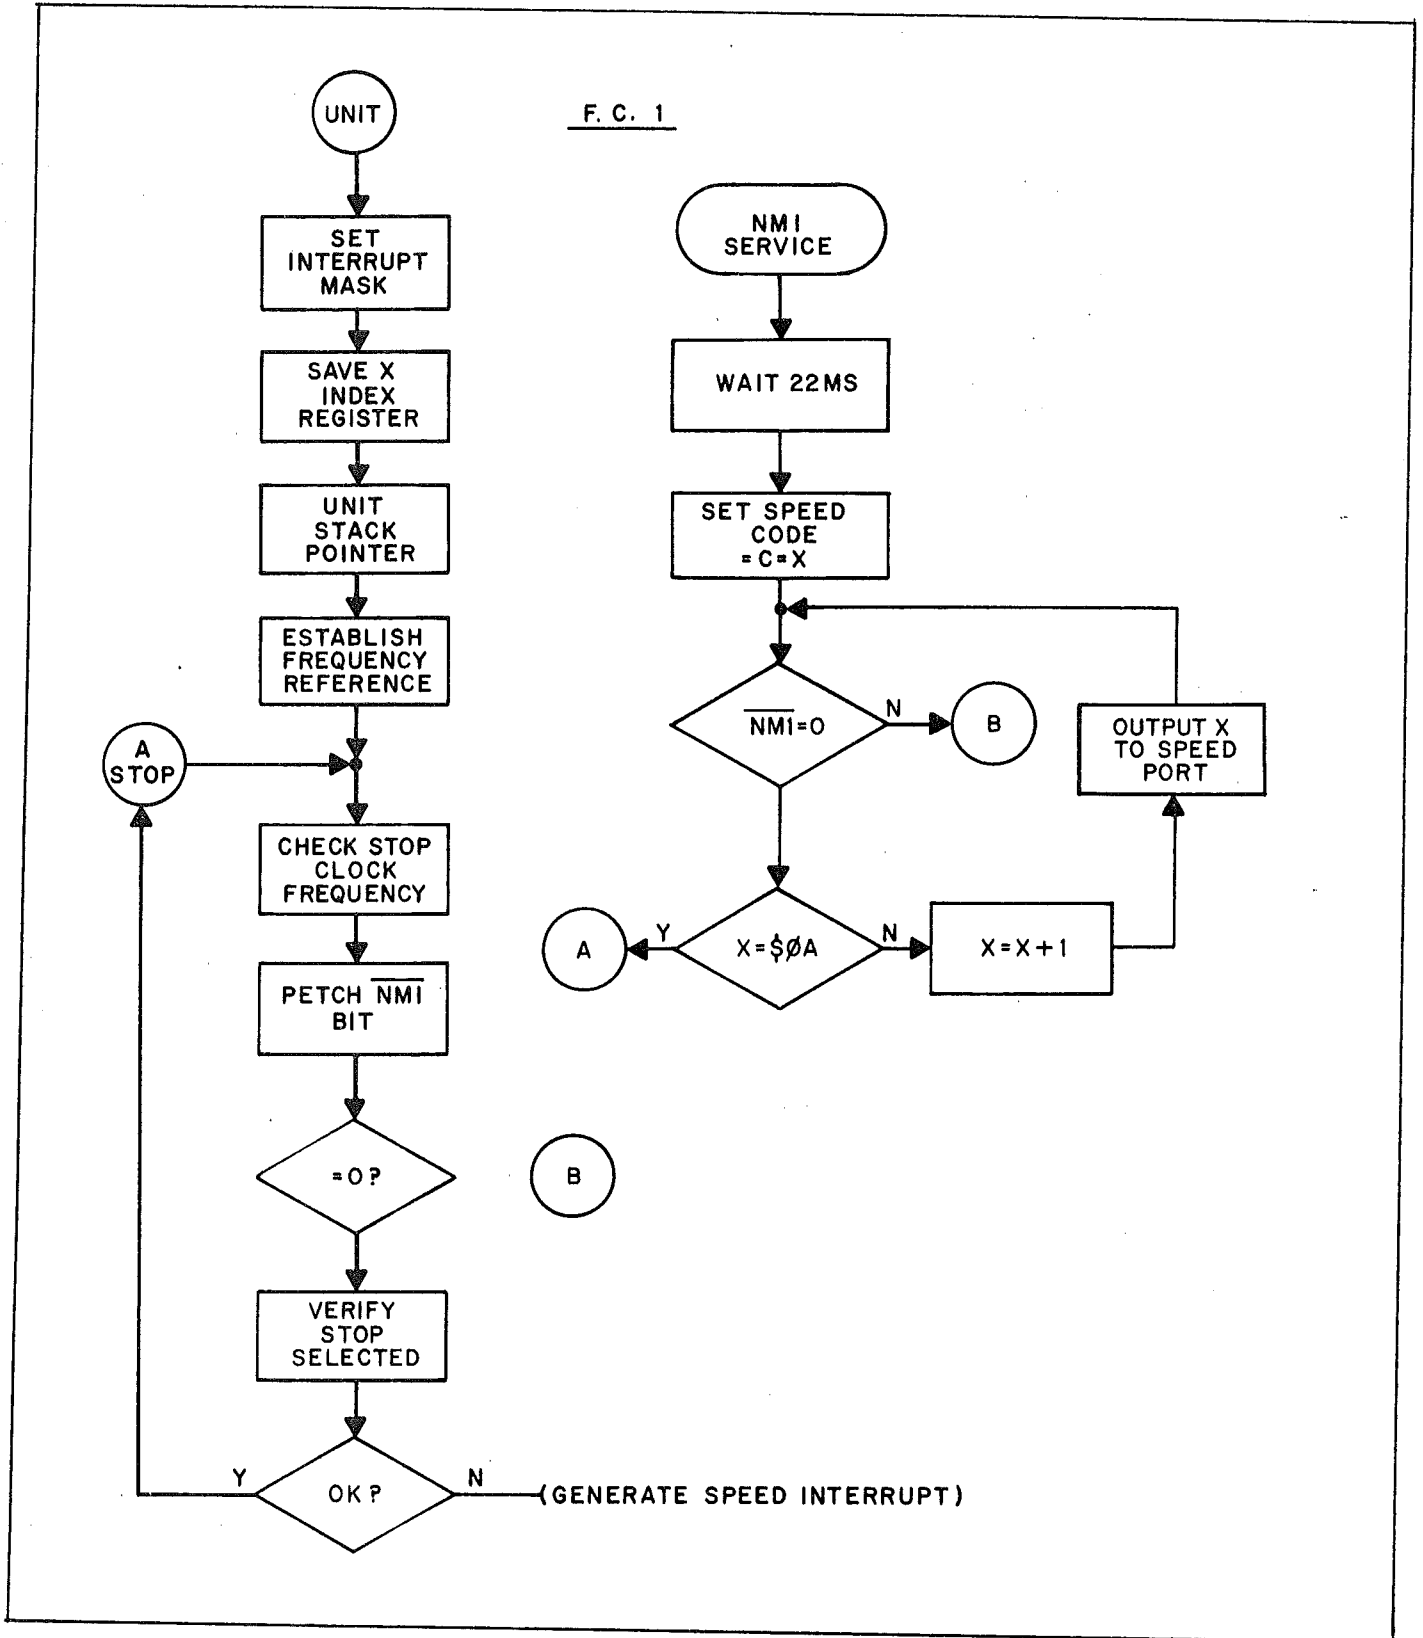
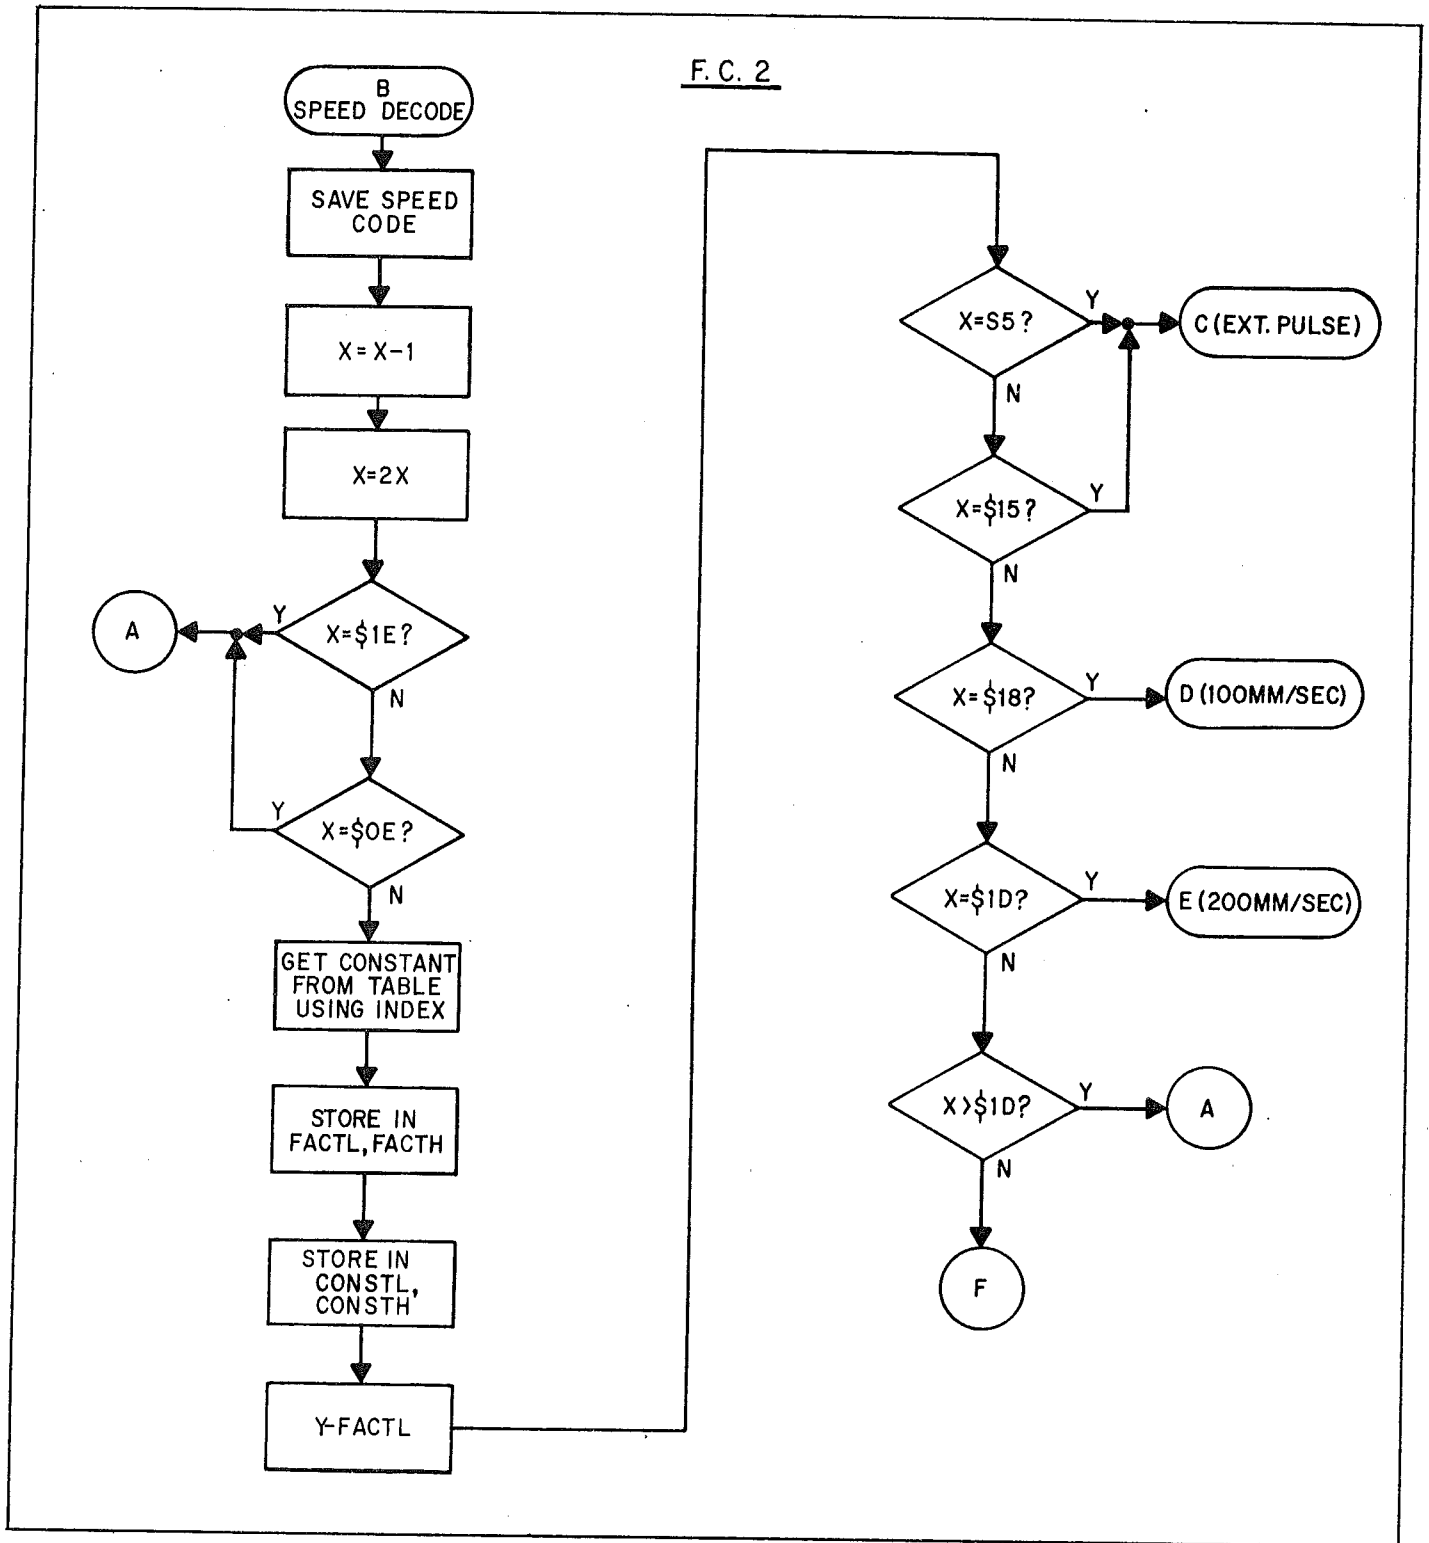

FIGURE 4-7 SPEED FLOW CHART
FIGURE 4-8 FLOW CHART DECODE ROUTINE
All the chart speeds are selected by counting the step clock/2 signal. The speed decode software reads the speed code, and converts it into an index. It then reads from ROM the number of step clocks to ignore before taking a step using the index as a pointer to a look up table. These values are stored in two locations of scratch pad RAM for use by the speed generation routines (locations fact1 and consth, constl). Refer to Figure 4-7 flow chart for operation of this module.
Whenever the speed is changed, the hardware generates an interrupt. (NMI on Figure 4-7). The processor outputs a 0000 to U419 and checks the NMI to see if that is the right code. If it is, it goes to the decode routine flow chart, Fig. 4-8). If it is not, it increments the code on U419 and checks again. This process repeats until the correct code is found, or until all possibilities are exhausted. In the latter case, the processor returns to the stop routine (point (A) Figure 4-7). Here, the frequency is checked. If NMI is still true the processor returns to the switch decode routine, and repeats the entire process. This will happen if the enable line is 0, which occurs for stop, remote link out, remote stop true, or interlock.
The speed decoder (Figure 4-8 point (B)), uses the switch setting established by U419 to generate the correct speed. The speed code is put in the index register. This number is decremented and multiplied by 2 to give a compact, efficient structure to the speed look up table. The index register is now the pointer to this table. The processor fetches the correct speed constants from the table using an indexed load, and stores them twice in RAM. Each constant is two BYTES and represents the number of step clocks to count before stepping. One constant is decremented to zero by the speed routine and the second restores the first.
Certain speeds are handled as special cases, and these are shown at the end of Figure 4-8.